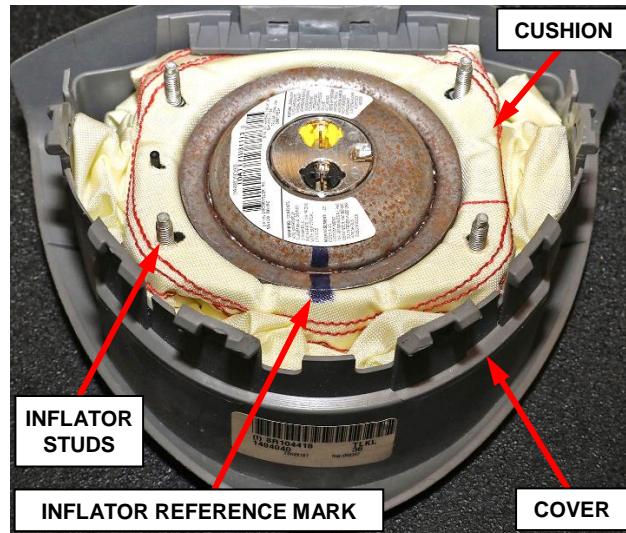

Figure 16 – Install Cushion into Cover
15. Install the air bag cushion into the cover starting by tucking the cushion into the top of the cover. Once the top is tucked, apply pressure to the rest of the cushion and inflator to fit snugly into the cover. Ensure inflator studs are in a central location identical to production position. Ensure the inflator is lined up with the reference mark made earlier (Figure 16).